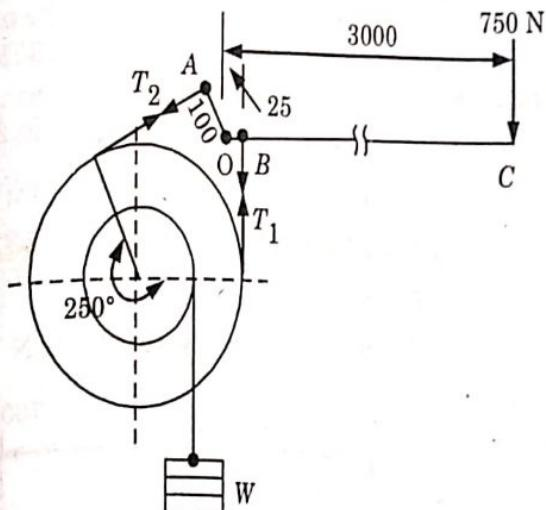

Fig. 5.13.1.
2. We know that, when the drum rotates in clockwise direction, the end of band attached to A will be slack with tension T_2 and the end of the band attached to B will be tight with tension T_1 , as shown Fig. 5.13.1.